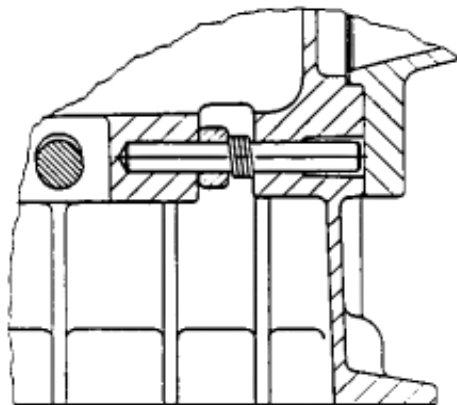

Figure 8.13 Typical parking brake shaft pin and spring
- g. Install the parking brake lever pin and spring. Refer to Figure 8.13. Caution: ensure the rake lever can rotate freely.